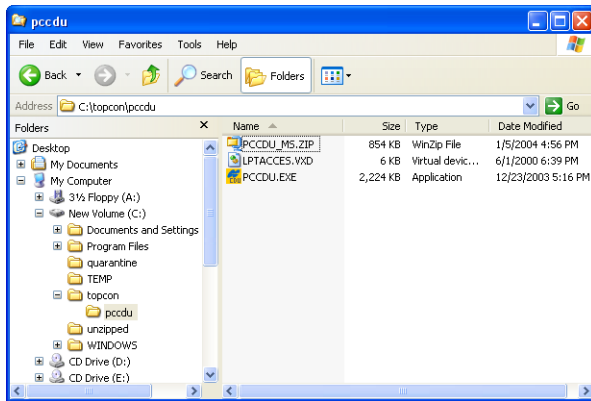

Figure 2-1. Extract Program and Create Shortcut
3. Extract the PCCDU.EXE and associated *.dll file to the PC-CDU folder (Figure 2-1).
4. Create a shortcut on the computer's desktop for quick access to PC-CDU (Figure 2-1).